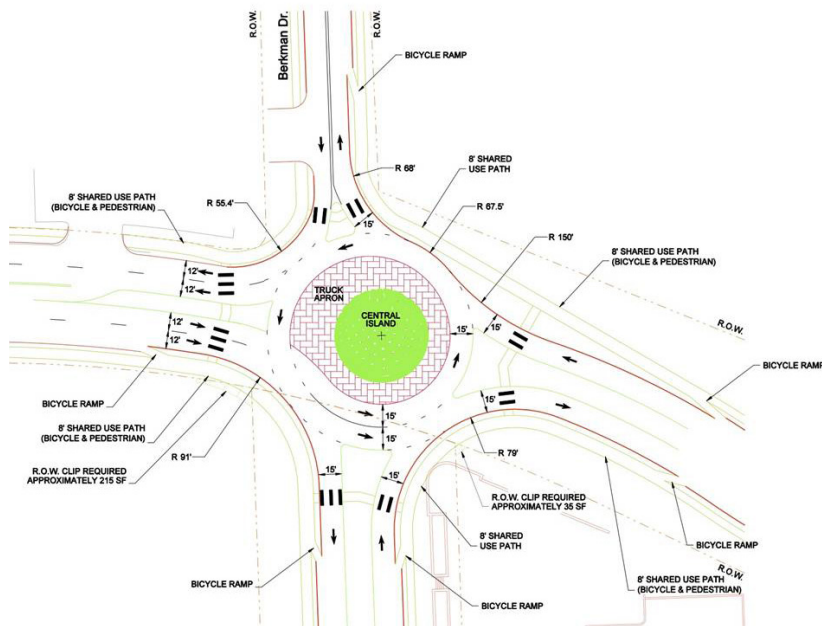

Figure 9:
- The City of Austin is exploring the feasibility of roundabouts at key intersections throughout the City, including one at 51st Street and Berkman Drive. Roundabouts have been shown to improve vehicular movement, while calming traffic and enhancing pedestrian and bicycle safety (Figure 9).